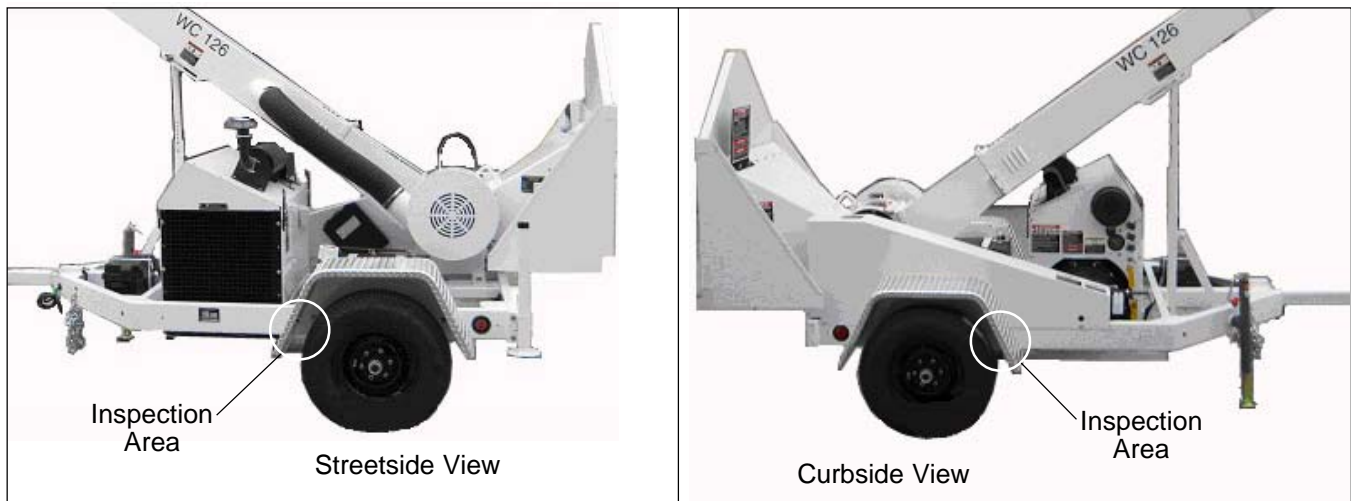

Figure 1 — Inspection Location
1. Position the chipper in a flat area where there is adequate light or an artificial light available to perform a careful inspection of the frame near the axle mounting (refer top Figure 1).